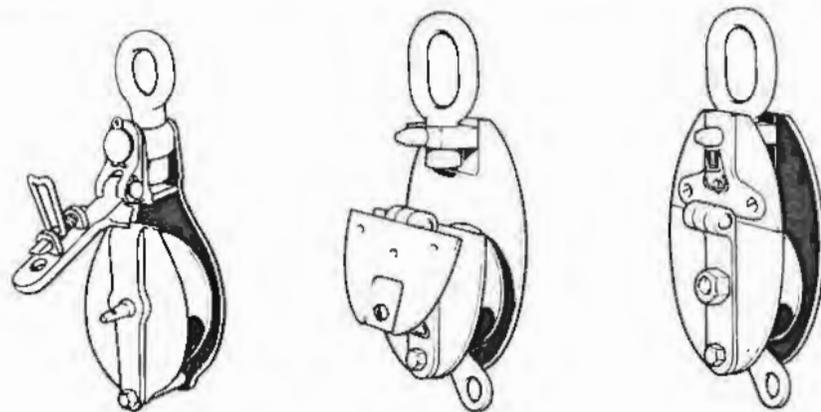

FIG. 8-5. Snatch blocks
**Snatch blocks** (fig. 8-5). These are single blocks, metal or SRBF, in which part of the shell is hinged to form a 'gate' which allows a bight of rope to be inserted into the swallow from one side. They should not be used when a solid block is suitable for the job. They should *never* be used when the safety of life depends on them, because the gate may open if a sideways pull is exerted. Figure 8-5 shows a metal snatch block and an SRBF snatch block with the gate open and closed.